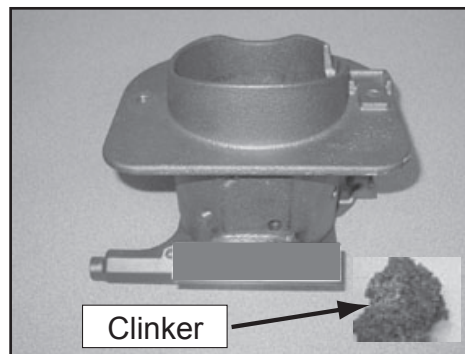

Figure 27.1 - Large Clinker
- b. It may be necessary to use your fire pot clean-out tool to chip away material that has built up on the sides of the fire pot and to push out any clinkers (Figure 27.1).